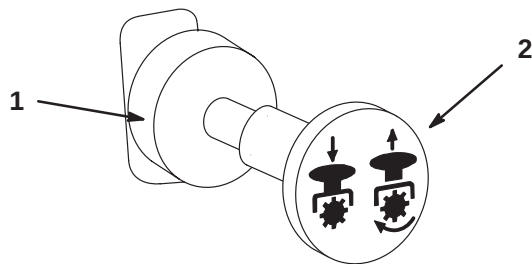

Figure 17
3. Pull out on the power take off (PTO) switch to engage (Fig. 17).
To disengage, push the PTO switch to the Off position (Fig. 17).